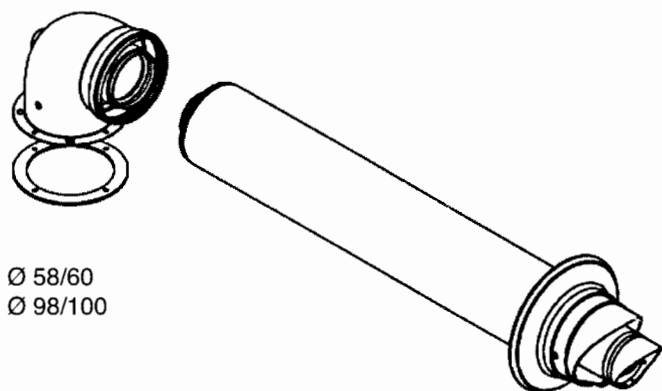

Fig.5
8.2 A standard 700+/-5mm flue kit (*figure 5*) is supplied with the boiler, which can be routed to the rear, left or right of the appliance by means of a 90° degree bend . The bend is connected to the boiler using the screws provided and sealed with the gasket.